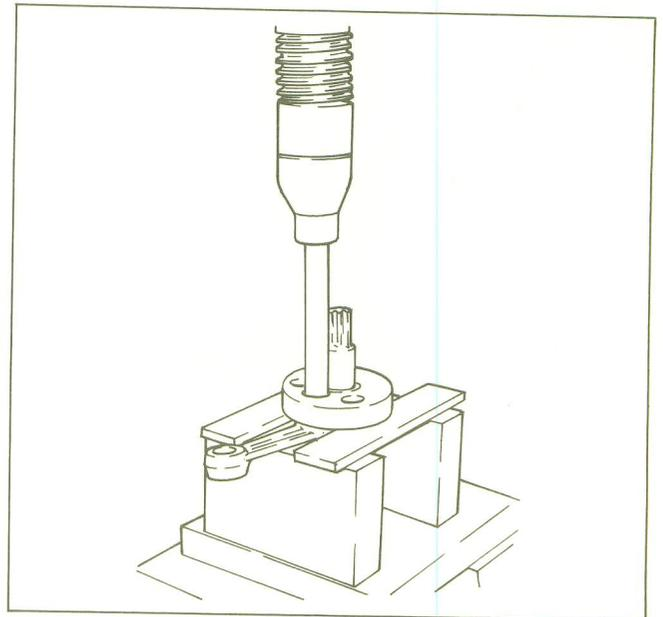

Fig. 3-134
- Remove the crank pin in the manner as shown in Fig. 3-134. (For this purpose, use the jigs as shown in Fig. 3-2.)